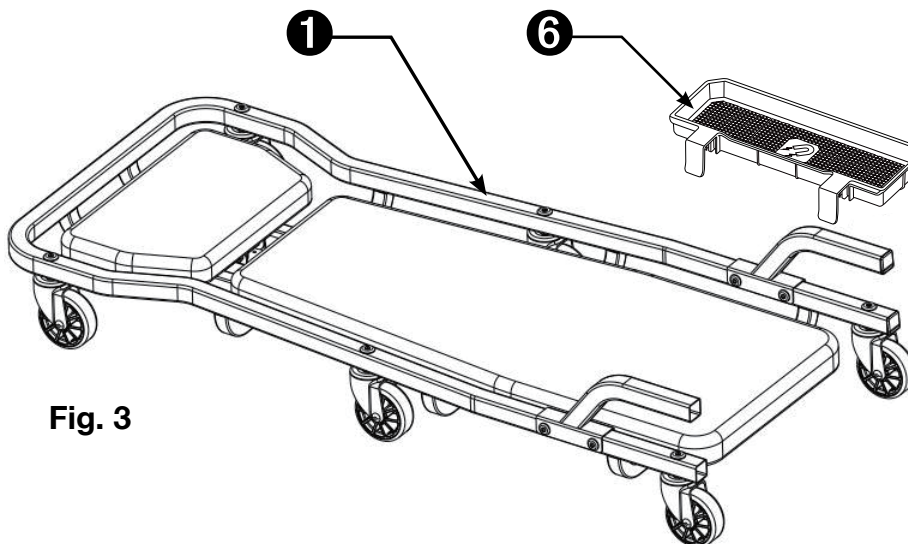

Fig. 3
Place the magnetic plastic tray (❺) onto either side of the body frame (❶) as shown in Fig. 3.